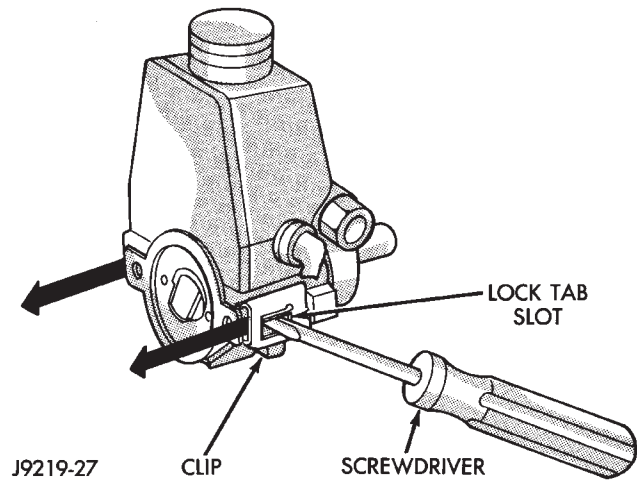

Fig. 3 Remove Reservoir Clips (Typical)
- (1) Remove pump and clean exterior of pump with solvent.
- (2) Remove the filler cap and drain the fluid from reservoir.
- (3) Clamp the front hub of the pump in a soft jaw vice.
- (4) Pry up tab and slide the retaining clip off (Fig. 3).